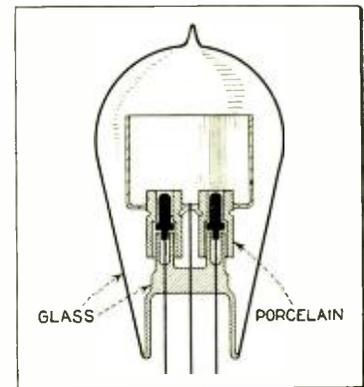

Fig. 3. Internal construction of the high voltage rectifier tube
details of construction, whereby this high voltage and current may be obtained are clearly shown in Fig. 3. It is due to this type of construction that the life of the rectifier at such excessive drains, namely, 42 watts on the 90 mil. rectifier and 150 watts on the 300 mil. rectifier, is appreciably lengthened.
efficiency of "L") current in the circuit "L-b1-C." Inasmuch as "b" and "b1" are common to both, and the r. f. currents are equal and opposite, they balance each other and cannot be detected by the ordinary r. f. indicator, but they are there just the same. The action can be proved by the equivalent circuit in Fig. 3, where we have isolated our induced current, and r. f. will be found in all parts of the circuit, as nothing is common to both circuits.
- FIG. 3 -
An equivalent circuit illustrative of the action in the circuit of Fig. 3.